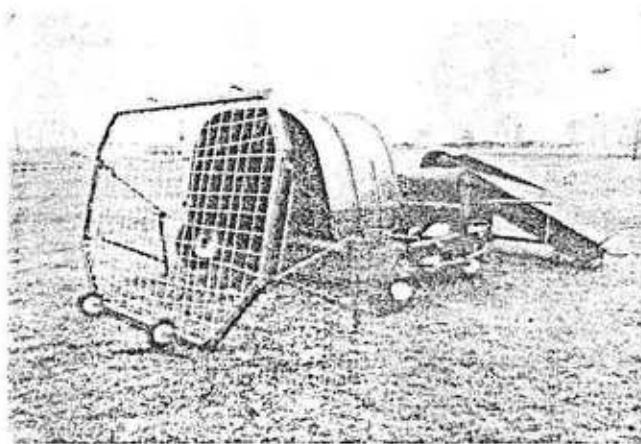

FIGURE 1
- A. Position the Silopress so the open side of the compacting tunnel is where the starting end of the Silobag will be. Figure 1